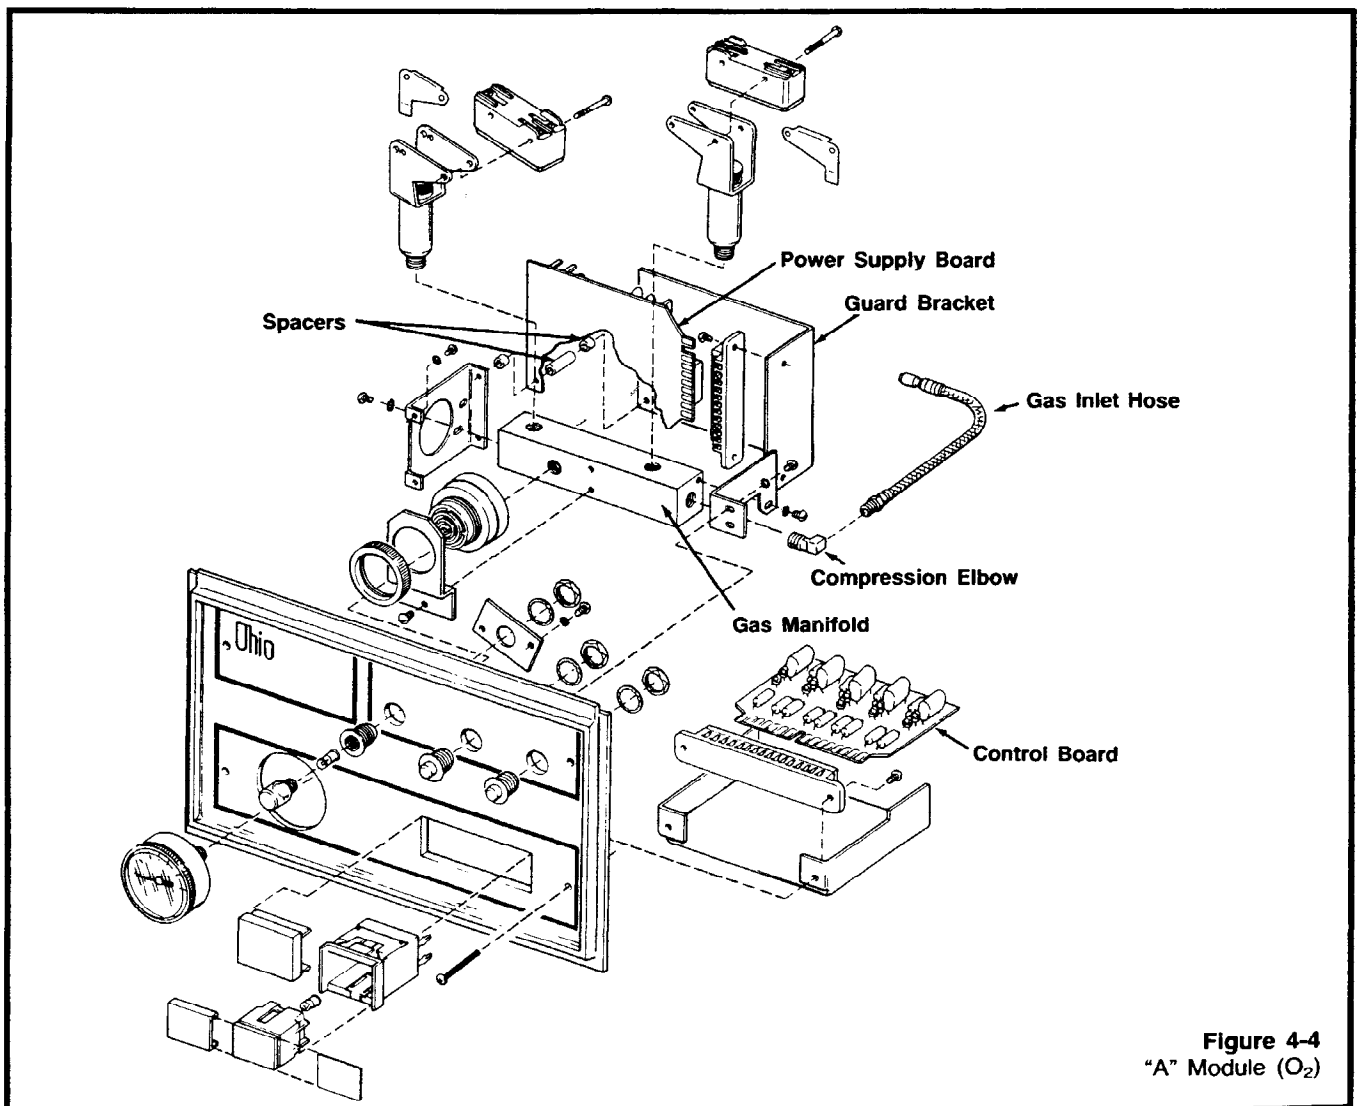

Figure 4-4
(See Figure 4-4):
2. Remove the four screws which hold the power supply board's guard bracket in place (See Figure 4-4).
2. Remove the screws which hold the power supply board's guard bracket in place (See Figure 4-4).